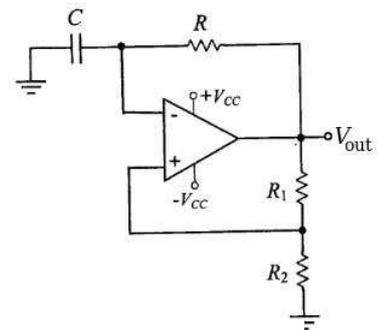

Figure 17
- 1- Construct the circuit shown in Figure 17 by using $R = 10K\Omega$,